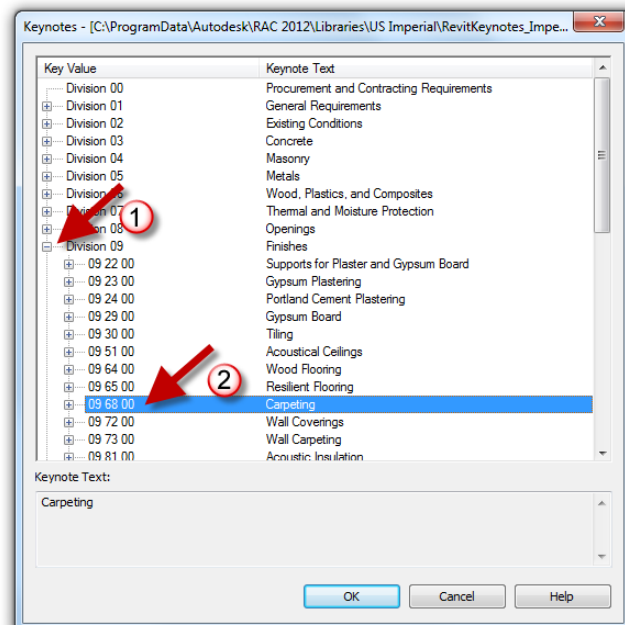

FIGURE 4-3.8 Keynotes selection dialog
- b. Click the small button to the right of the **Keynote** field and then select **09 68 00 Carpet** as shown in Figure 4-3.8). *Note: you will learn more about keynoting later in the book.*